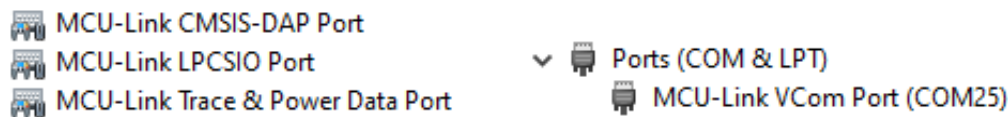

Figure 16. MCU-Link enumerated devices for CMSIS-DAP firmware
- If the CMSIS-DAP firmware was programmed, then the red status LED (D16) fades in/out repeatedly ("breathing"), while the green USB status LED (D14) stays ON constantly. In this case, four devices (three HID devices and one VCOM port) get enumerated, as shown in Figure 16.